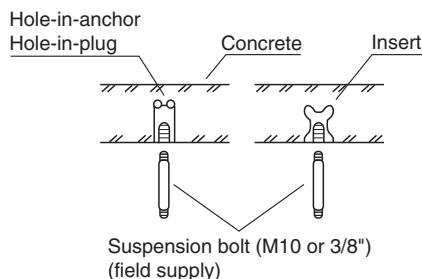

Fig. 3-3
- (3) Depending on the ceiling type:
- Insert suspension bolts as shown in Fig. 3-3